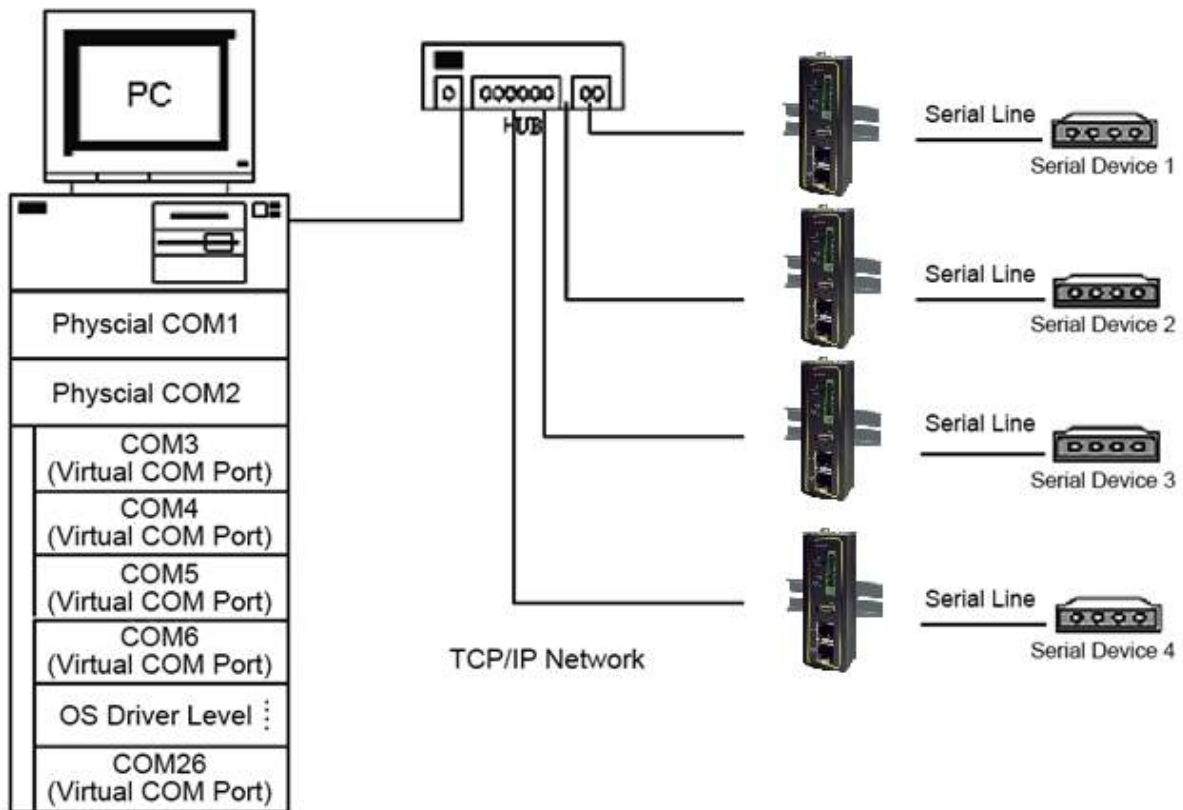

Figure 6.3 An Example Diagram of Virtual COM Application over TCP/IP Network
Virtual COM on host computer allows remote access of serial devices over TCP/IP networks through Serial/IP Virtual COM ports that work like local native COM ports. Figure 6.3 is an example of Virtual COM application diagram. In the diagram, multiple serial servers (i.e. PS4000/8000/16000 devices) in which each one connects to serial device are connected over an Ethernet hub. Their serial devices can be accessed through the TCP/IP network of the hub. Note that there are traditionally only two Physical COM ports (COM 1 and COM 2) on the personal computer (PC) while there can be several Virtual COM ports such as COM 3, 4, 5, and so on. In PS4000/8000/16000 case, the TCP/IP network can be wired network such as Ethernet.